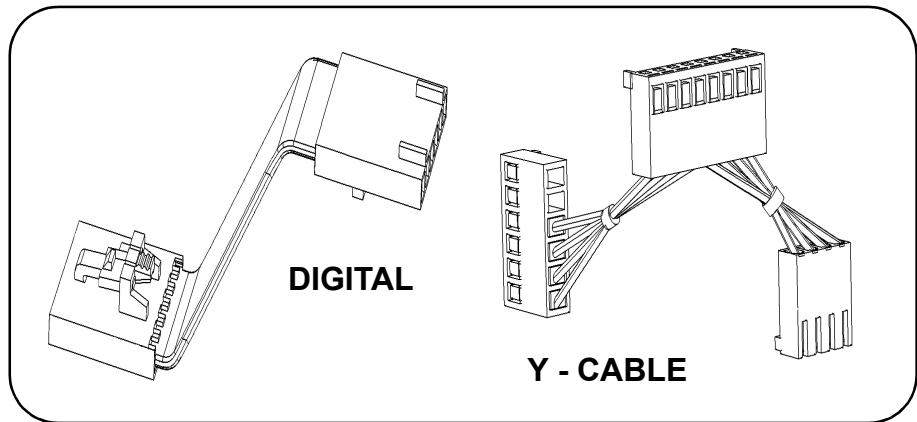

Figure 6. Digital and Y-Cables.
4. Next, connect the 6-pin connector on the supplied Y-cable assembly (Figure 6) to the AC power supply 6-pin connector, and then connect the 4-pin connector on the cable to the motherboard 4-pin connector where the jumper cable was removed in step 2.
6. Connect one end of the supplied (digital) 6-pin ribbon cable (Figure 6) to the 6-pin connector J1200 (next to 4-pin connector J1000 on the motherboard).